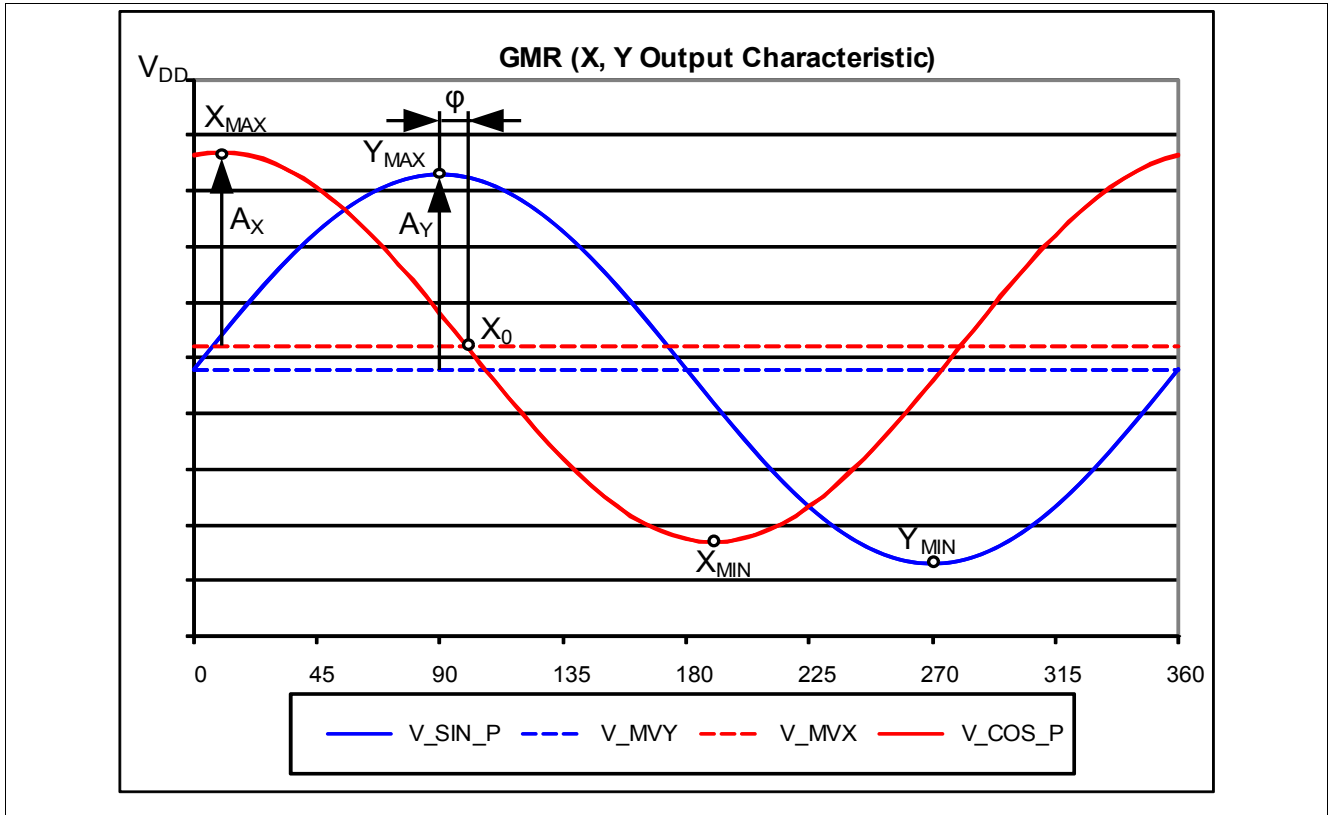
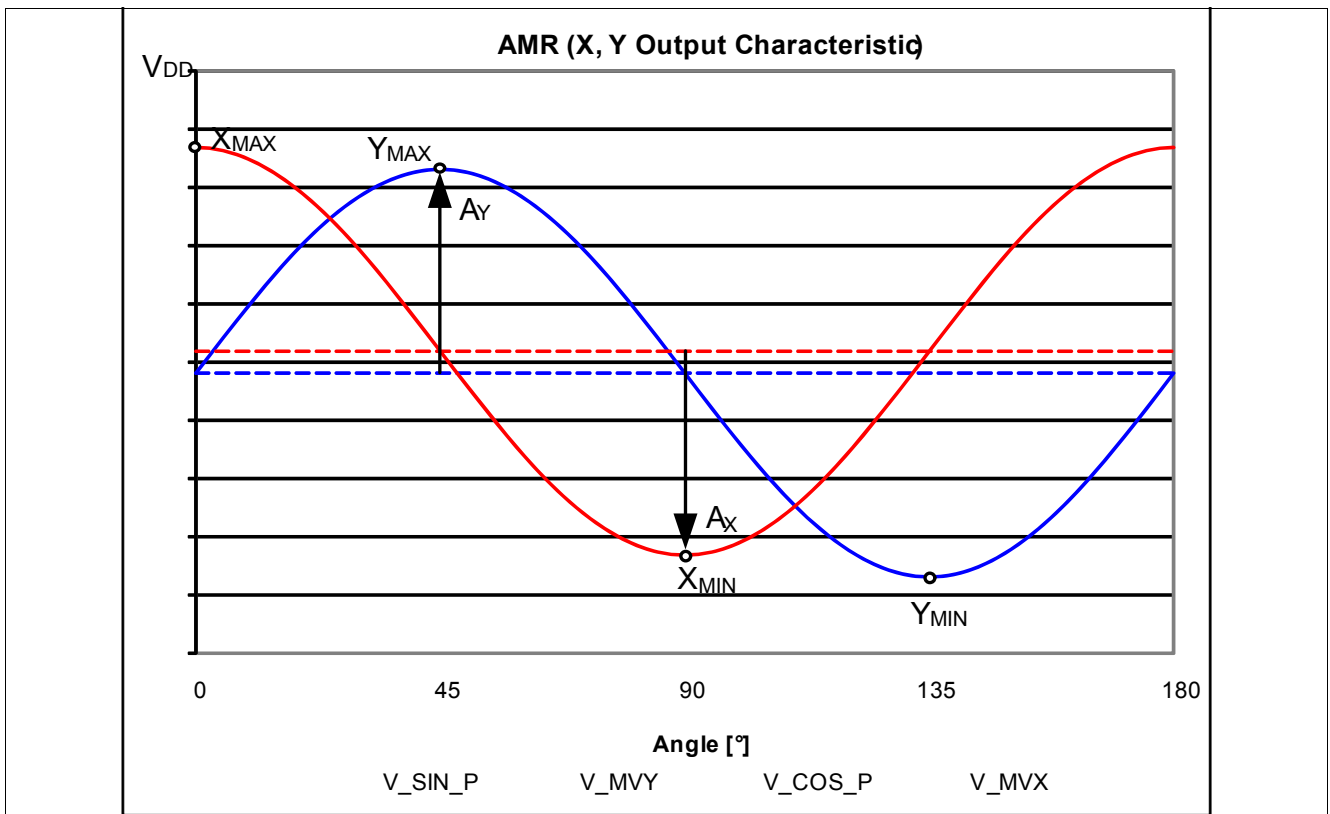
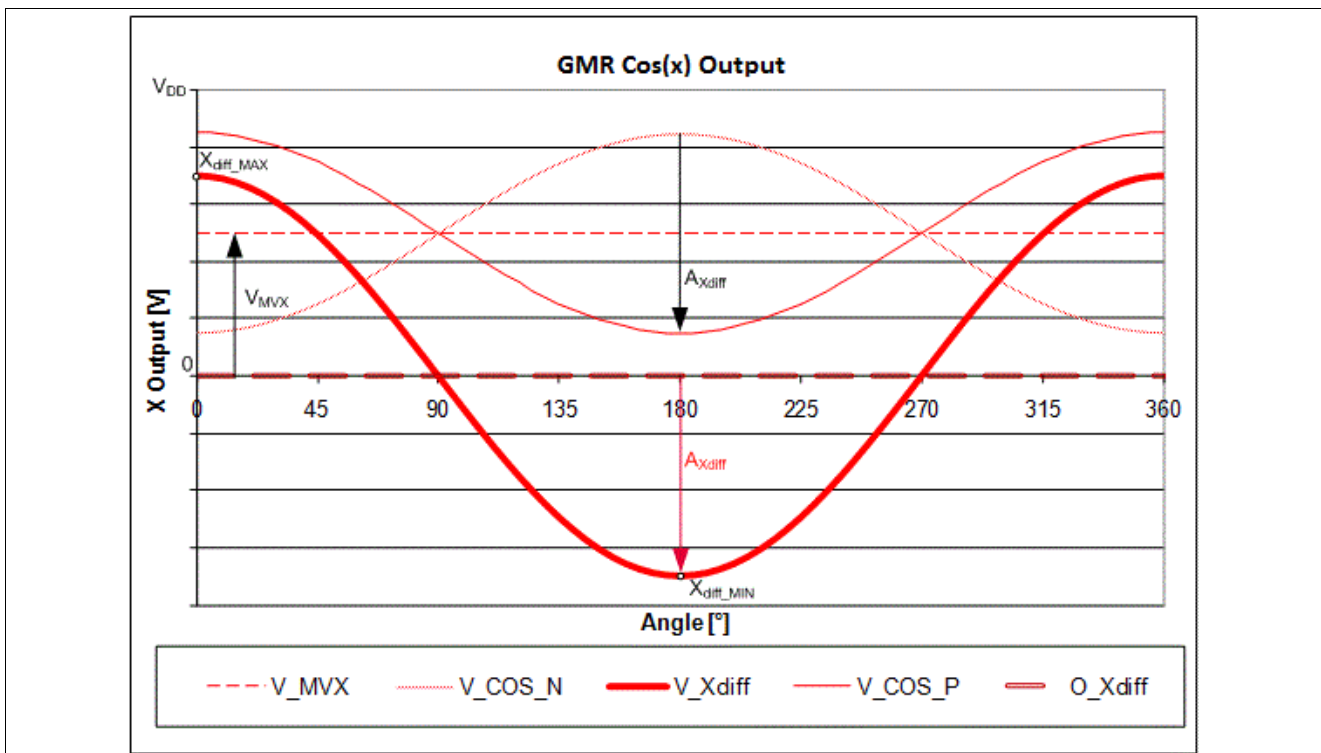

Figure 12 GMR sensor single-ended output signals
Figure 13 AMR sensor single-ended output signals
Figure 14 GMR differential output of ideal cosine
All parameters apply over the full operating range, unless otherwise specified. The parameters in Table 6 refer to single pin output and Table 7 to differential output. For variable names please refer to Figure 12 “GMR sensor single-ended output signals” on Page 23 and Figure 14 “GMR differential output of ideal cosine” on Page 24.
1) V_{max} and V_{min} correspond to the voltage levels at X_{max} or Y_{max} and X_{min} or Y_{min} respectively as shown in Figure 12, Figure 13.